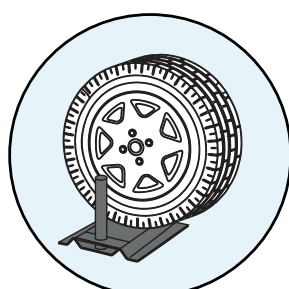

Fig 10.
- 9 Drive the vehicle onto the wedge. (Allow maximum clearance to avoid damage to the vehicle) (Fig10)